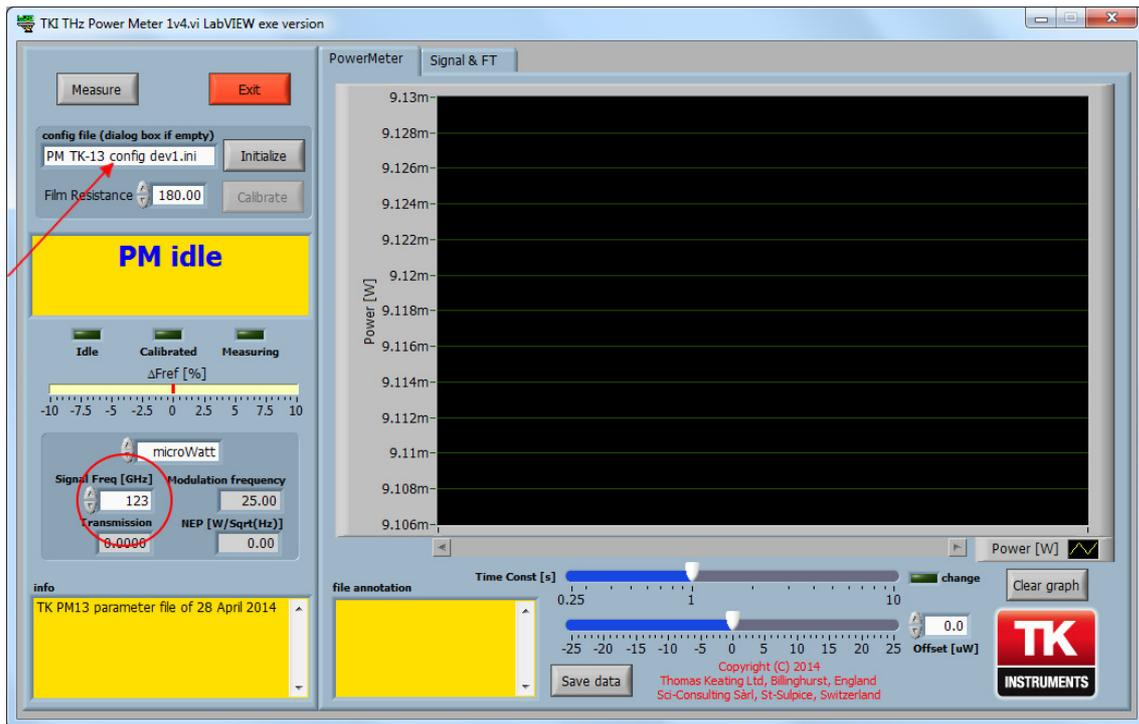

Figure 2.4: Support software main window. The arrow indicates the location of the configuration file name. The signal frequency input is circled.
1. The power meter software is started by selecting `All Programs` → `TKI` → `TKI THz Power Meter 1v4` from the start menu. This brings up the power meter front panel as shown in Figure 2.4.
3. Erase the name of the configuration file, `PM TK-07 config dev1.ini`, from the input box indicated by an arrow in Figure 2.4.
When the program is running without any power incident on the film, a view similar to that in Figure 2.4 is seen when the Power Meter tab is selected. Note that before calibration, power readings give negative and haphazard profiles of measurement. The device automatically calibrates before measuring for the first time, thereafter the measurements tail off to zero. Manual calibration can also be activated by clicking the Calibrate button located above the measurement reading on the left hand side of the panel.
- Enter the frequency of the radiation to be measured at the lower left of the window (circled in Figure 2.4).